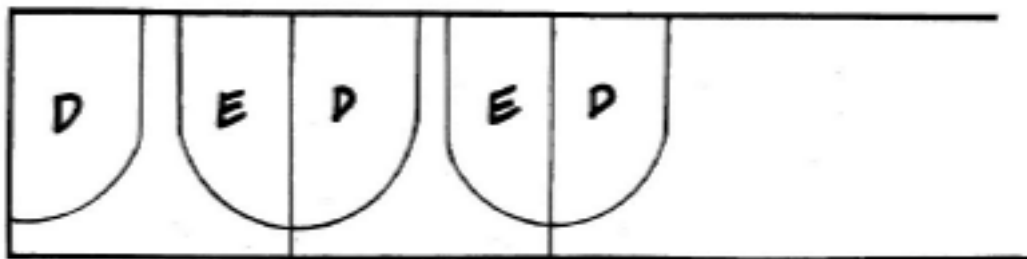

Fig 14.3
2. Cut the A panels from a strip 70mm high. Cut the B panels from a strip 132mm high. Cut the C panels from a strip 79mm high Cut the bottom panels (D and E) from a strip about 95mm high in the method shown in fig 14.3.